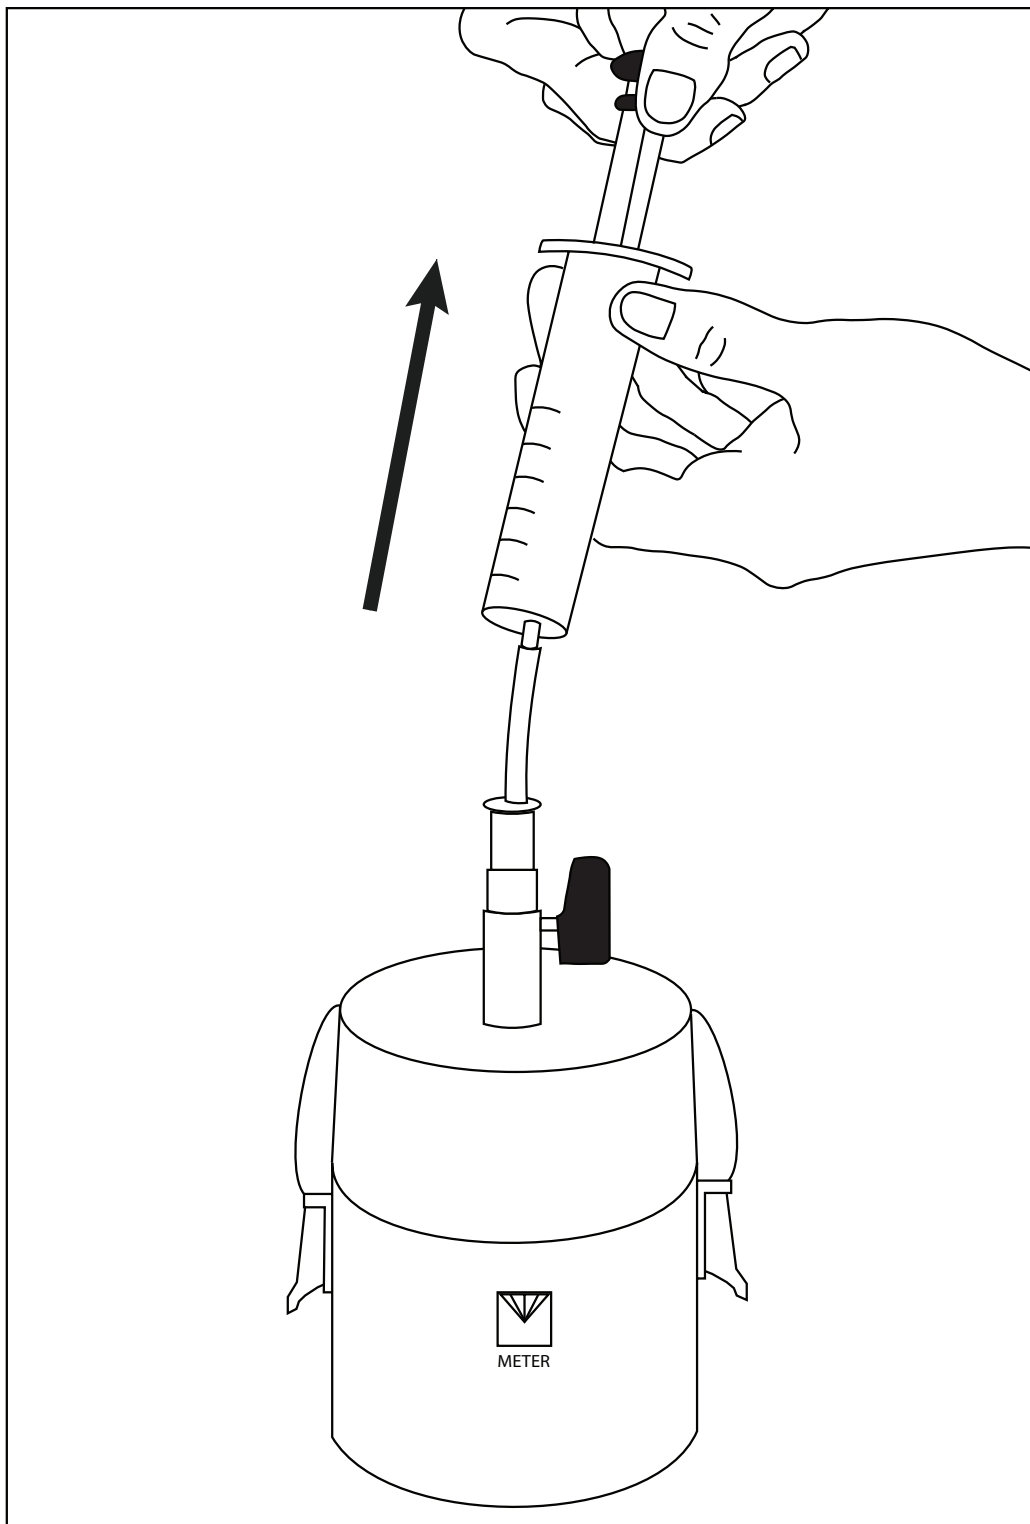

Figure 15 Degas the water in the sensor unit
8. Pull out the plunger of the vacuum syringe until the plunger stoppers snap (Figure 15).